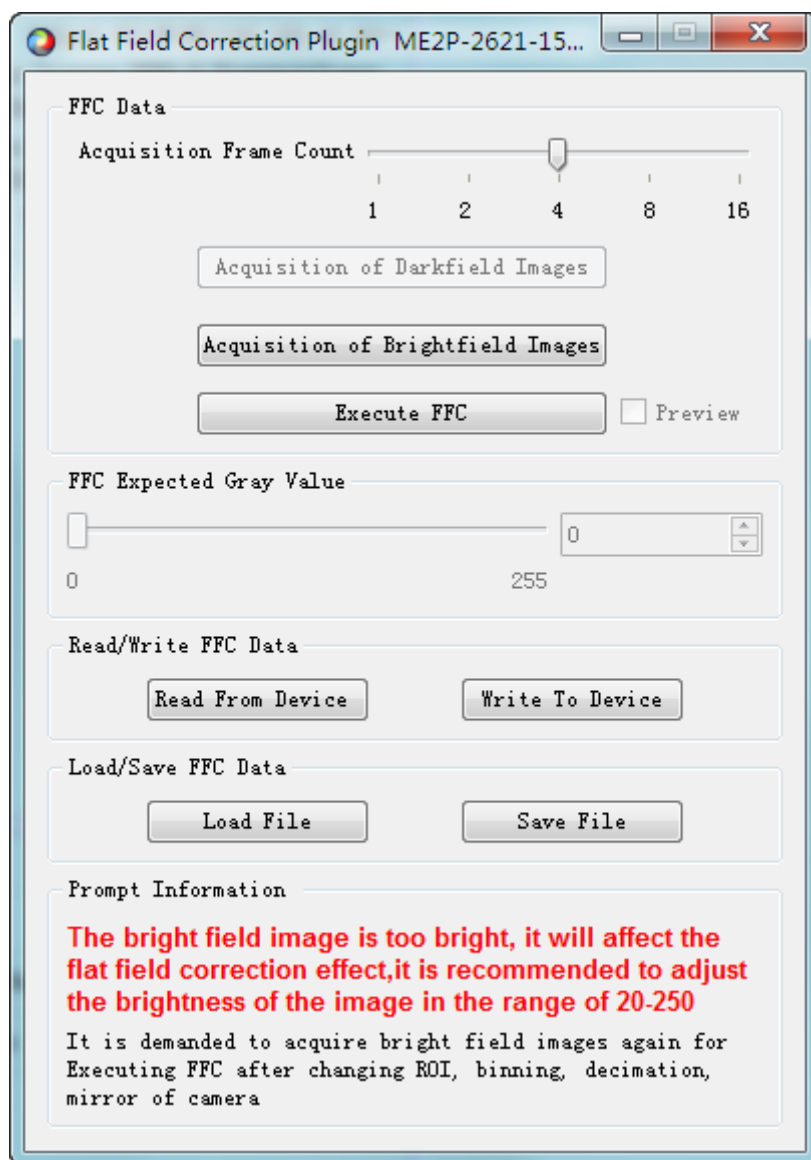

Figure 9-9 The bright field image is too bright
- 5) If the brightness of the acquired bright field image is greater than 250, it will prompt in the prompt box that the acquired bright field image will affect the effect of FFC, as shown in Figure 9-9. In this case, it is recommended to adjust the image brightness in the range of 20~ 250, and then reacquiring the bright field images.